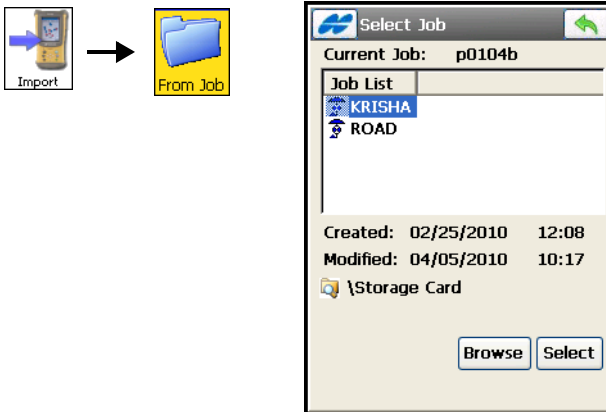

Figure 5-1. Select Job
1. Tap **Import** ► **From Job**. The *Select Job* screen (Figure 5-1) displays. Highlight the name of the job file in the Job List and tap **Select**; or tap **Browse** to select the Job file from the disk.